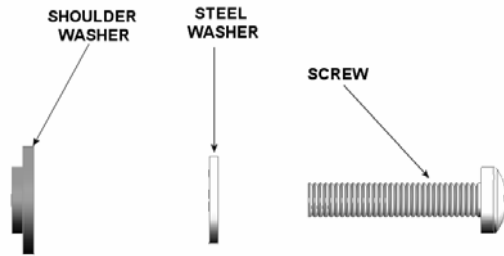
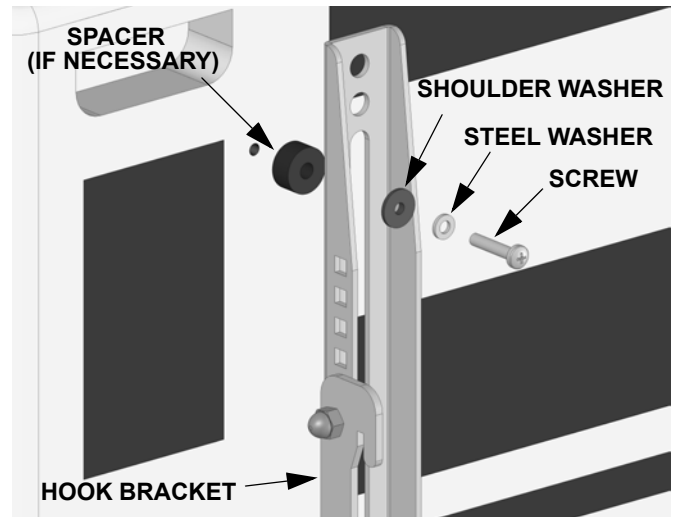
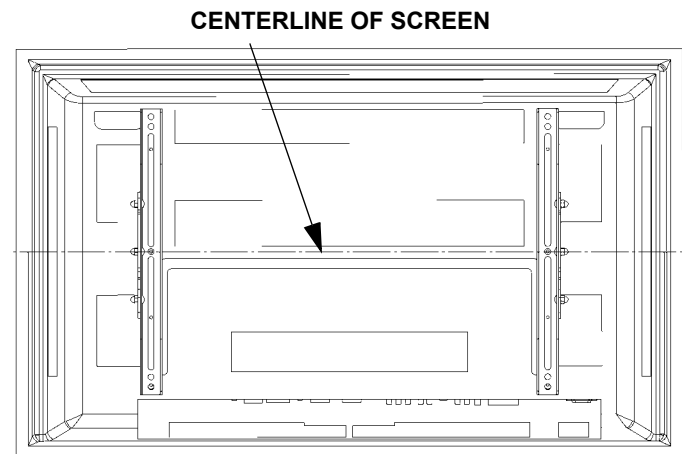

Figure 4. Attachment Parts
Figure 5. Attachment
Figure 6. Center Line of Display
2. Position the interface bracket assemblies (20 and 30) with the hook bracket faced toward the outside of the display (refer to Figure 5).
3. Using the center hole on the interface bracket as a reference point, align the bracket with the center line of the display (see Figure 3 and Figure 6).
4. Secure the left and right factory assembled interface bracket assemblies (20 and 30) to the display. Select the mounting hardware that fits your application. Read the following list and refer to Figure 4 and Figure 5.
- Use M6 screws (70 or 80) or M8 screws (40, 50, or 60), steel washers (160), and shoulder washers (200).
- Or, use M4 screws (120, 130, or 140) or M5 screws (90, 100, or 110) steel washers (150), and shoulder washers (190).
5. Find the center line of the display once again (see Figure 6).
6. If necessary, remove the attaching hardware and move the hook brackets as close to the center line of the display as possible (see Figure 6). Re-install the hook brackets onto the interface brackets.